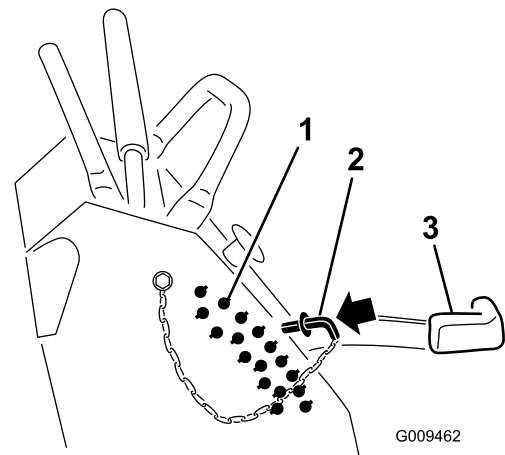

Figure 28
2. Select a hole in the height-of-cut bracket corresponding to the height-of-cut desired and, insert the pin (Figure 28).
3. Lower the height-of-cut lever to the pin (Figure 28).